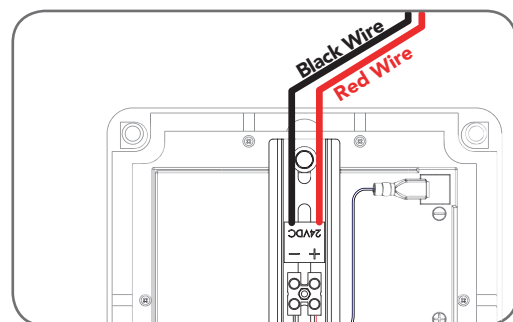

Fig 17
3. Connect the **red wire** to the Battery Box's "+" terminal, and the **black wire** to the "-" terminal (Fig. 17).